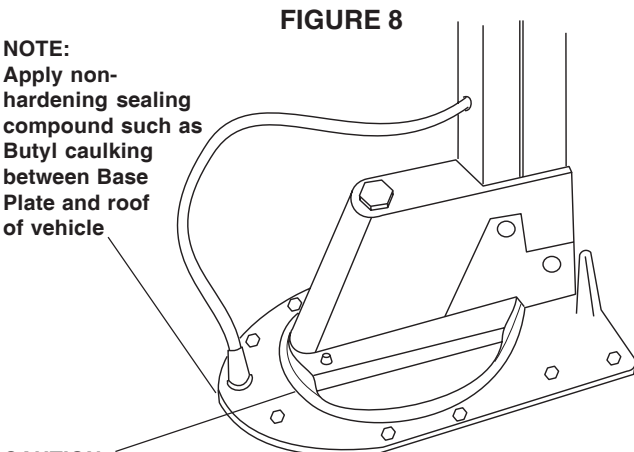

FIGURE 8
STEP 8: Mount antenna and lift on roof in travel position. Apply a liberal amount of approved nonhardening sealing compound on bottom of base plate and roof area around hole, Figure 8. Secure base plate with screws provided. Apply sealing compound over mounting screws, Figure 8.